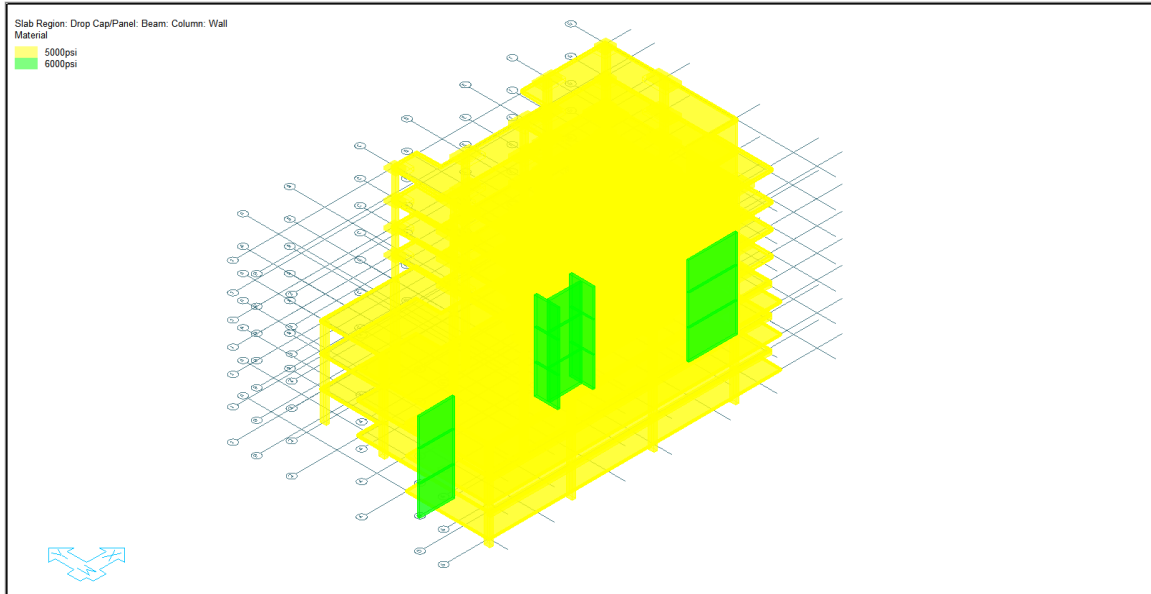

FIGURE 7-6
- Displayed on screen we can see the components colored by *Material* as shown in **FIGURE 7-6**.